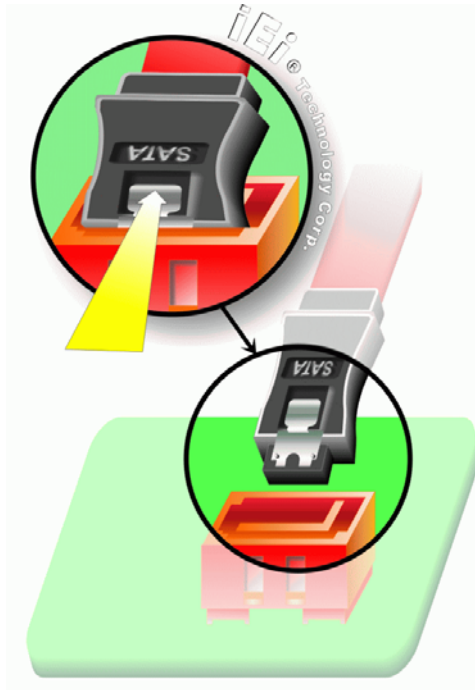

Figure 5-18: SATA Drive Cable Connection
Step 2: Insert the cable connector. Press the clip on the connector at the end of the SATA cable and insert the cable connector into the onboard SATA drive connector. See **Figure 5-18**.